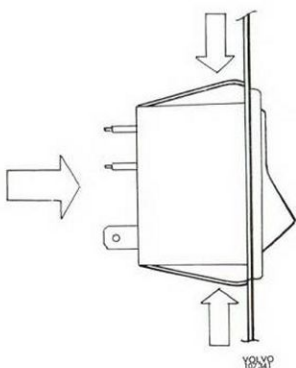

Fig. 3-148. Removing switch
4. Remove the switch by first pressing in the lock springs and then pressing the switch out of the panel, see Fig. 3-148.